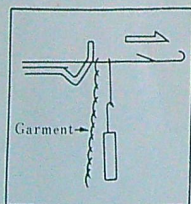

Fig. 51
- 6) Raise up all needles to position "E" and bring the stitches and loops behind latches of the needles. (See Fig. 51)